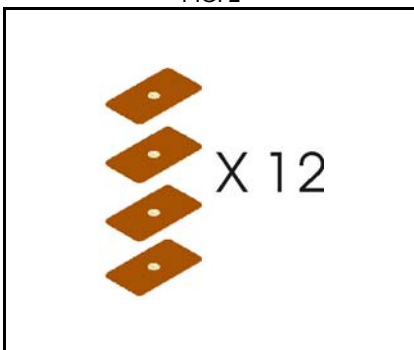

FIG. 4
- FIG. 4 ELETTRODI ADESIVI 45x80mm (conf. 4pz) (cod. 00600.13) 12 conf.